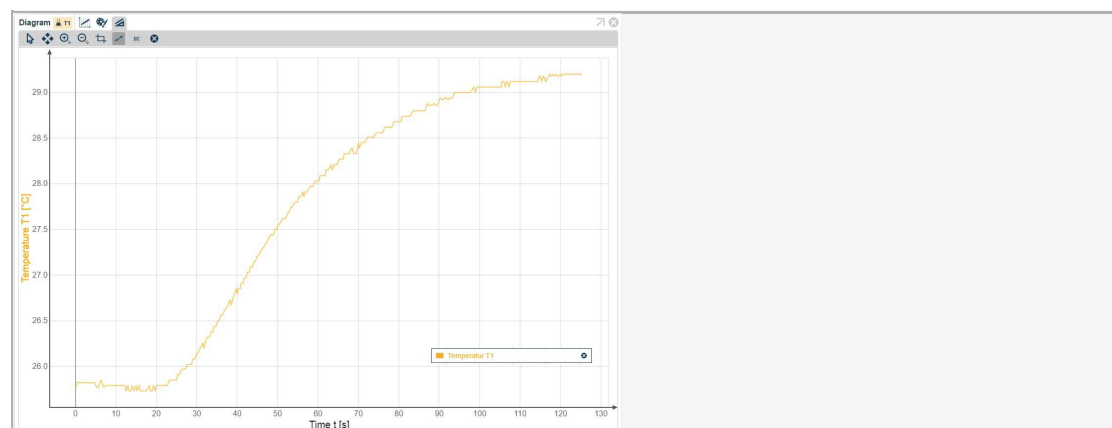
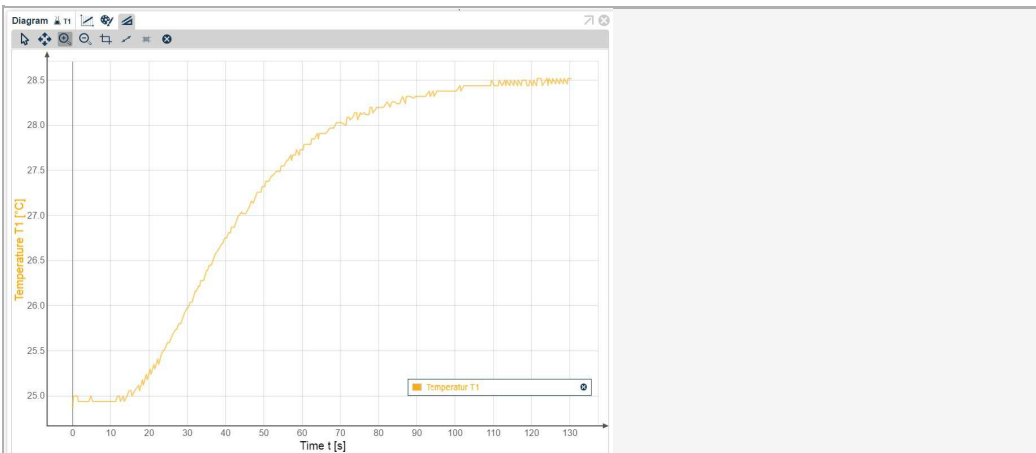

Fig. 3: Course of temperature in the calorimeter for 120 g Aluminium (100 °C) and 200 g water (room-temperature).
Fig. 4: Course of temperature in the calorimeter for 120 g Iron (100 °C) and 200 g water (room-temperature).
- The measured temperatures are displayed as a function of time immediately (see Fig. 3). Repeat the procedure for the other metallic bodies (Figs. 4 and 5).